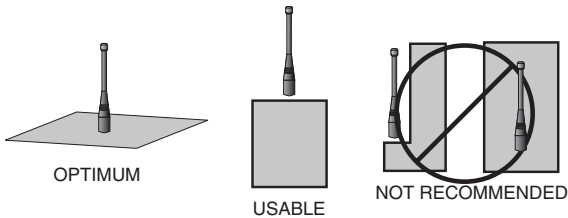

Figure 35: Ground Plane Orientation
2. Optimum performance will be obtained from a $\frac{1}{4}$ - or $\frac{1}{2}$ -wave straight whip mounted at a right angle to the ground plane (Figure 35). In many cases, this isn't desirable for practical or ergonomic reasons, thus, an alternative antenna style such as a helical, loop or patch may be utilized and the corresponding sacrifice in performance accepted.